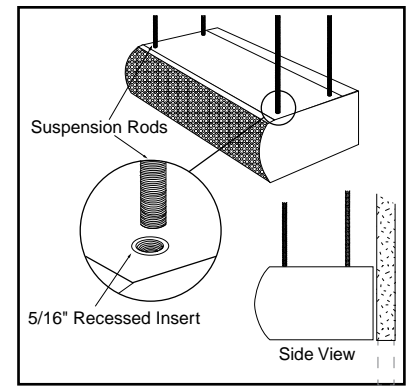

Figure 6
For top mounting suspension rods, four (4) factory installed 5/16" threaded inserts are located on the top of the unit. **See Figure 6.**